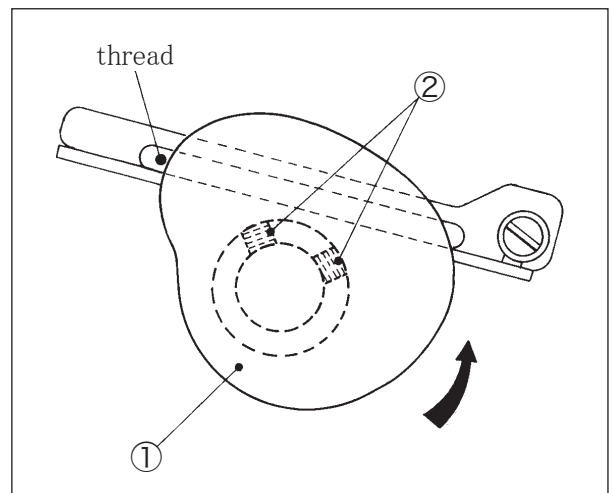

Fig. 6-8
Fig. 6-8 shows the looper thread take-up ① seen from the needle bar side.